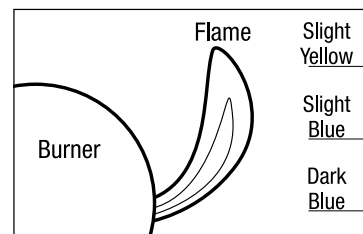

FIG. 4
- After lighting, observe the burner flame. Make sure all burner ports are lit and flame height matches illustration (Fig. 4).